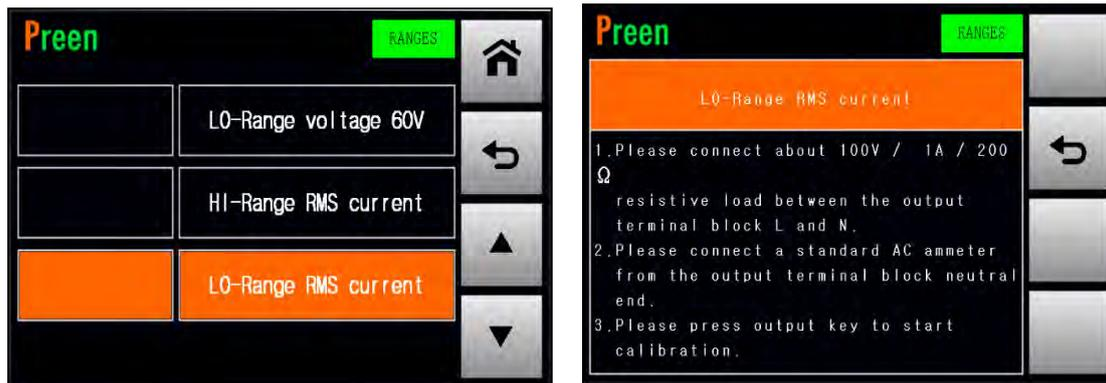

Figure 6.15 Enter into the page which calibrates the LO-Range RMS current
1. Press the item HI-Range RMS current repeatedly to enter into the page which calibrates the LO-Range RMS current (refer to Figure 6.15).